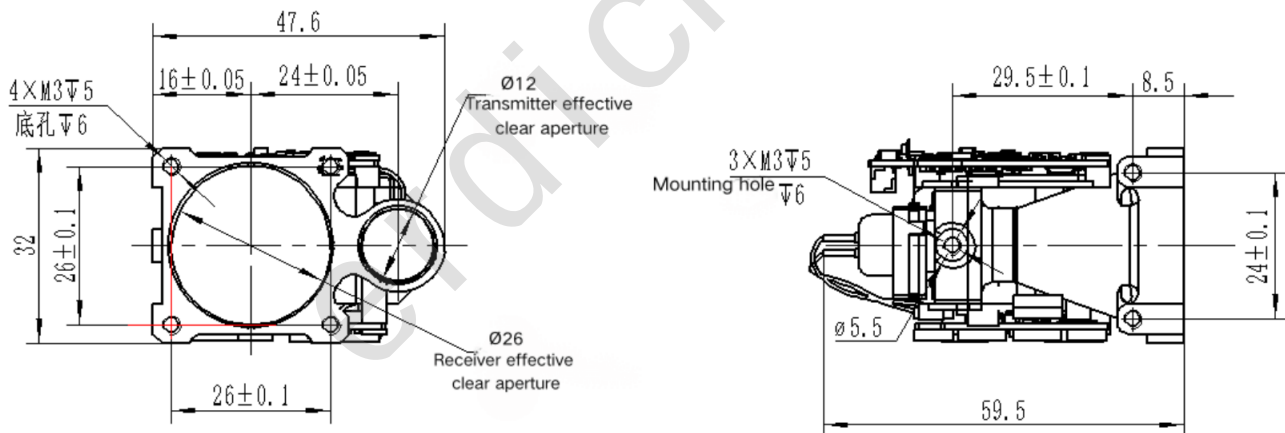

Figure 1 — Mechanical and Opto-Mechanical Interface Diagram
- c) **Mechanical and optical interfaces:** see Figure 1.